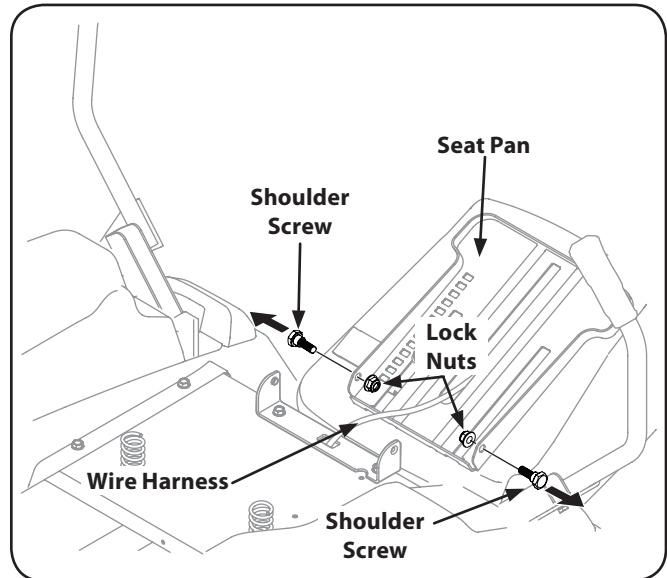

Figure 3-2
2. Remove the two shoulder screws and lock nuts in the seat pan as shown in Figure 3-2.